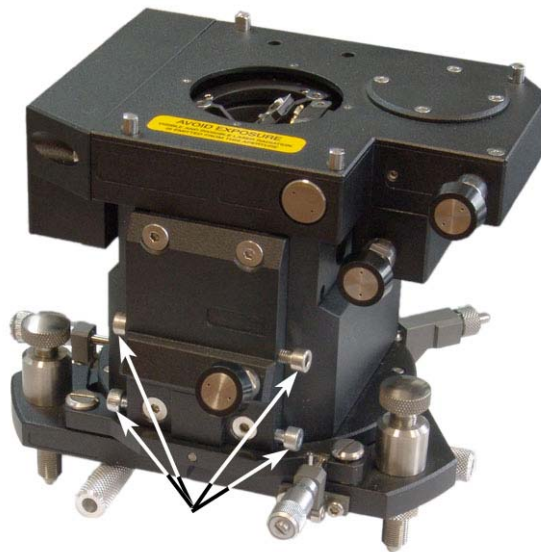

Fig. 10-12. Measuring head.
2. Unscrew four screws for fixing the side illumination module on the measuring head. These screws are at the front side of the lens holder (see Fig. 10-12).